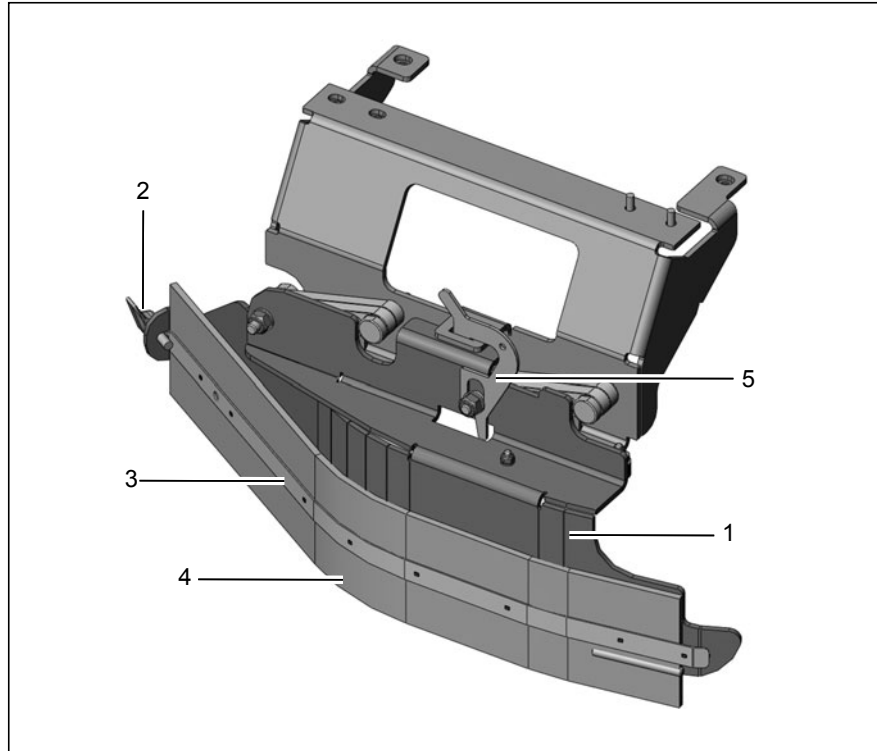

Fig.27
- 1. Open the locking hooks (Fig. 27/1).
Check the deflector rubber (Fig. 27/4) daily or as required and change it when necessary.
- 1. Loosen the wing nut (Fig. 27/2).
- 2. Slide the clamping rail (Fig. 27/3) to the front until the hooks on the inner side are free and the clamping rail can be moved away.
- 3. Change the deflector rubber (Fig. 27/4).